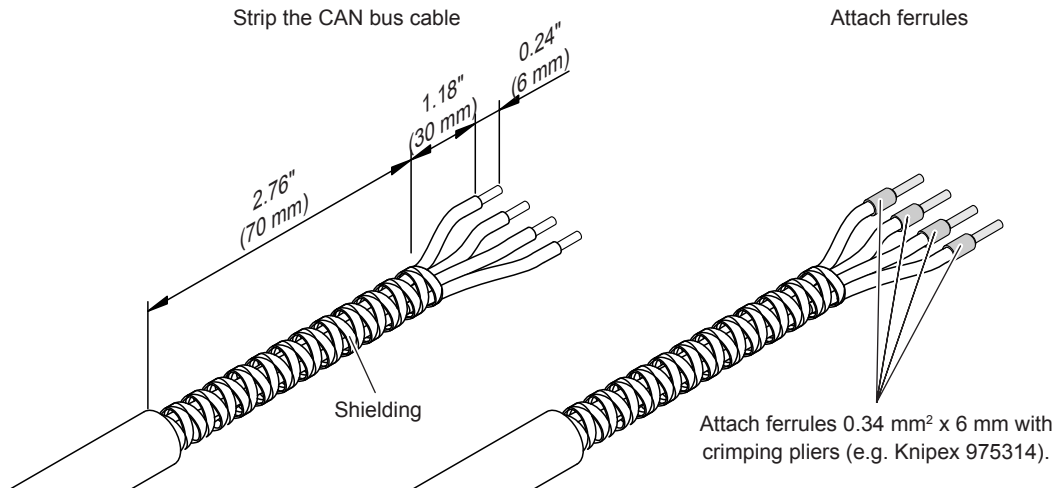

Fig. 4: Prepare cable
- Prepare the CAN bus cables for connection to the socket according to Fig. 4.